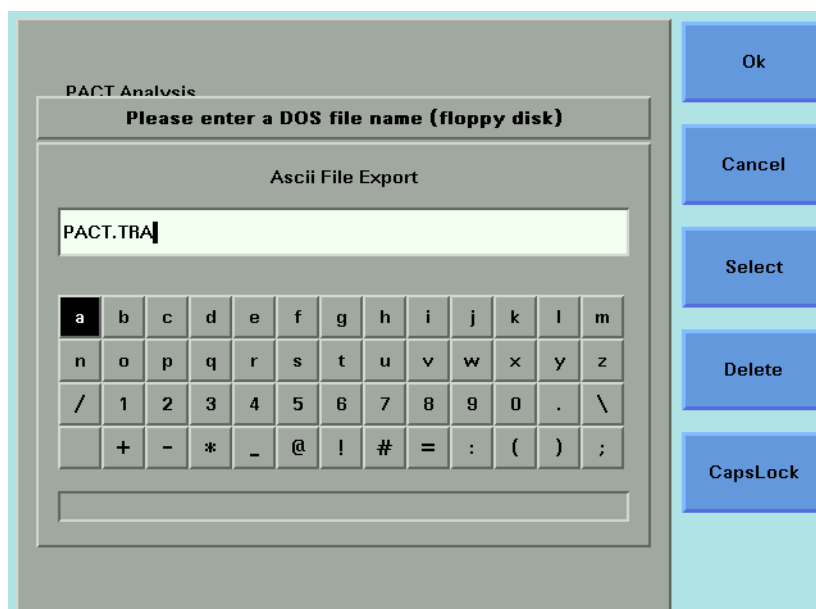

Figure 177 The File Name Editor
- 6 Press *Enter*. The File Name Editor, as shown in Figure 177 , appears.